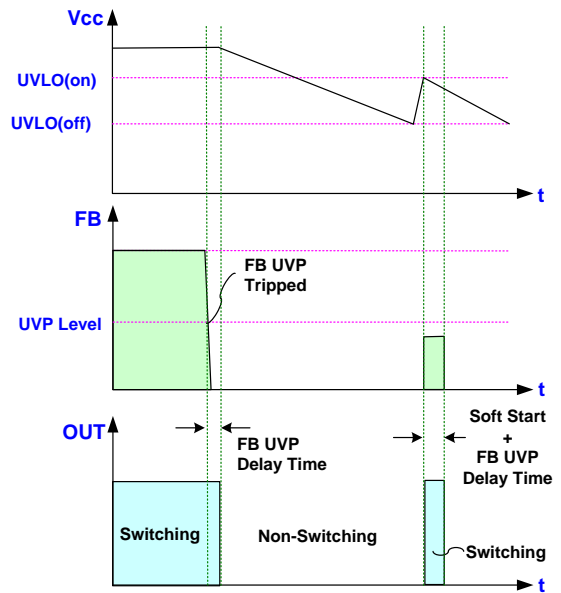

Fig. 19
LD9162C is implemented with an UVP function over FB pin. If the FB voltage falls below UVP level over the delay time (20ms), the protection will be activated to stop the switching of the power MOS until the next UVLO (ON) arrives. The FB UVP function in LD9162C is an auto-recovery type protection. The Fig. 19 shows its operation. During the soft start period, the FB UVP is disabled to avoid output under UVP level in soft start period. In soft start period, the Fig. 20 shows the operation. While FB is short to GND, FB pin keeps in zero voltage level. If FB cannot detect any voltage signal over 0.2V in the beginning of soft start period, then the soft start will turn to generate a driving signal every 1.5ms until FB UVP delay to shut down IC and auto recovery.